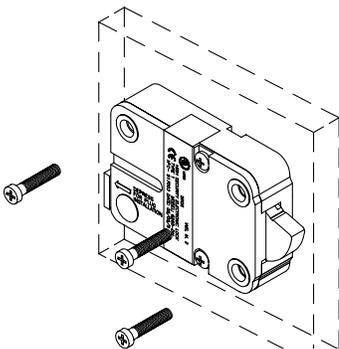

Figure 14
**NOTE:** All four mounting orientations are possible. The recommended torque for mounting screws on the Swing bolt lock is 30 in./lbs. for the US 1/4"-20 screws (3.4 N•m for Metric M6X1). (Figure 14.)